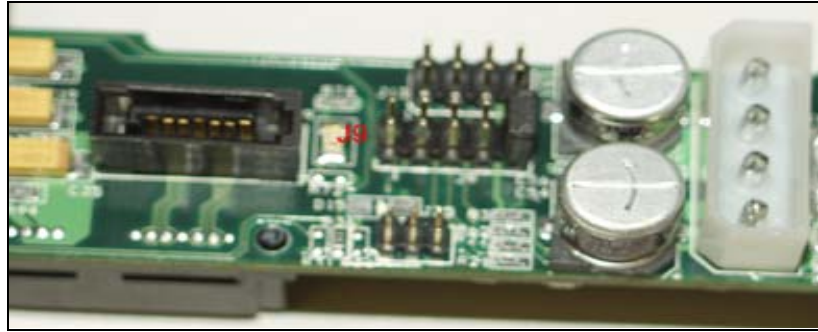

Figure 9 – Installing shunt.
- a. See **Figure 9** for details on how to install shunt.